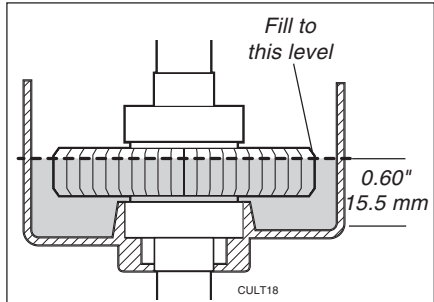

Figure 18
5. Place the gearcase on the LH side and supported so the outer tube is parallel to the ground. Refill the gearcase with 60 cc (2.0 fl.oz.) of Mobil SHC634 Synthetic Gear Oil to the bottom of the chamfer on the output gear. The correct oil depth is 0.60" (15.5 mm). See Figure 18. **DO NOT OVERFILL!**